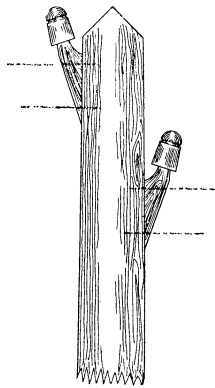
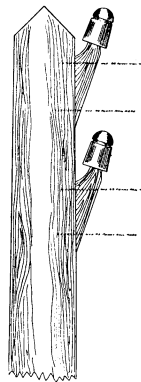

Fig. 4.
Fig. 5.
**FRAMING POLES.**—The roof of the pole shall be framed by sawing the top in plane at an angle of 45 degrees from the squared top of the pole, so that the ridge will be in the center. (See Fig. 5). All roofs should be painted with one thick coat of metallic paint, mixed in ratio of seven pounds dry paint to one gallon linseed oil.
**POLE FITTINGS.**—Where only one or two line wires are to be mounted on the poles, oak brackets fitted with glass insulators are fastened to the pole as indicated in Fig. 4 for straight lines, or as shown in Fig. 5 at curves. The brackets should be attached to the poles before the poles are raised. If more line wires are to be strung, cross-arms properly braced are required.